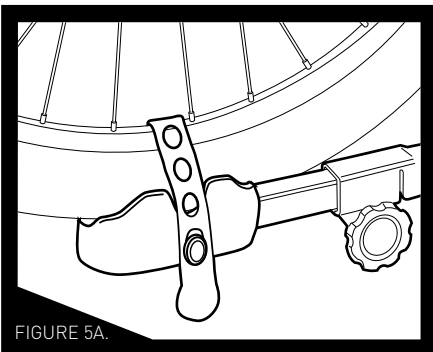

FIGURE 5A.
**STEP 3:** Place the first bicycle with one wheel in metal wheel tray and other properly centered on plastic wheel cup. Secure wheel to Plastic Wheel Cup using the rubber tension strap (Fig. 5A). Other wheel should be fully secure to the metal wheel tray using the strap and buckle as shown in drawing below.